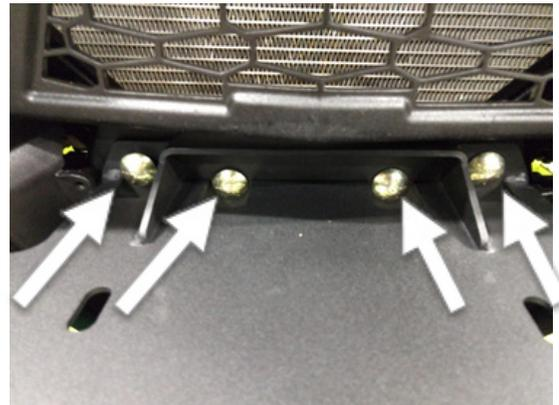

Figure 6
7. Using the four (4) provided 3/8" carriage bolts, flat washers, and nylock nuts (50212-HW) install the bumper (22073) to frame at the upper mounting flange. (Figure 6)